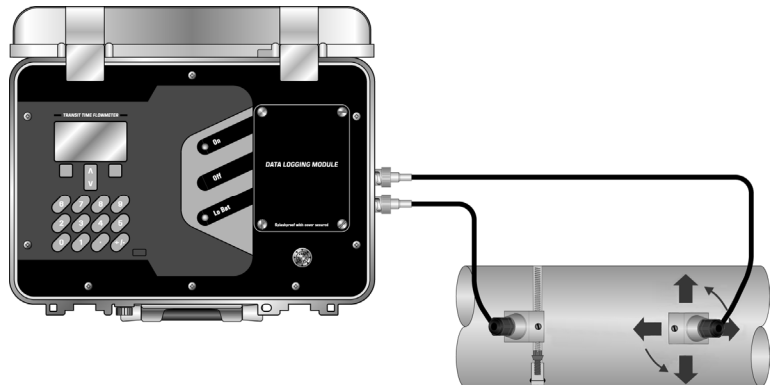

Figure 2.7 Z-Mode Transducer Placement
7. Place the downstream transducer on the pipe at the calculated transducer spacing. See **Figure 2.7**. Using firm hand pressure, slowly move the transducer both towards and away from the upstream transducer while observing Signal Strength. Clamp the transducer at the position where the highest Signal Strength is observed. Signal Strength of between 5 and 95 percent is acceptable. On certain pipes, a slight twist to the transducer may cause signal strength to rise to acceptable levels.